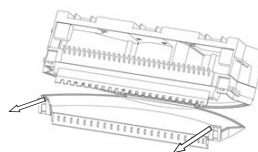

figure 1
A. Push the button of the filtering box cover as per **[figure 1]**, clean the filtering box and cloth.